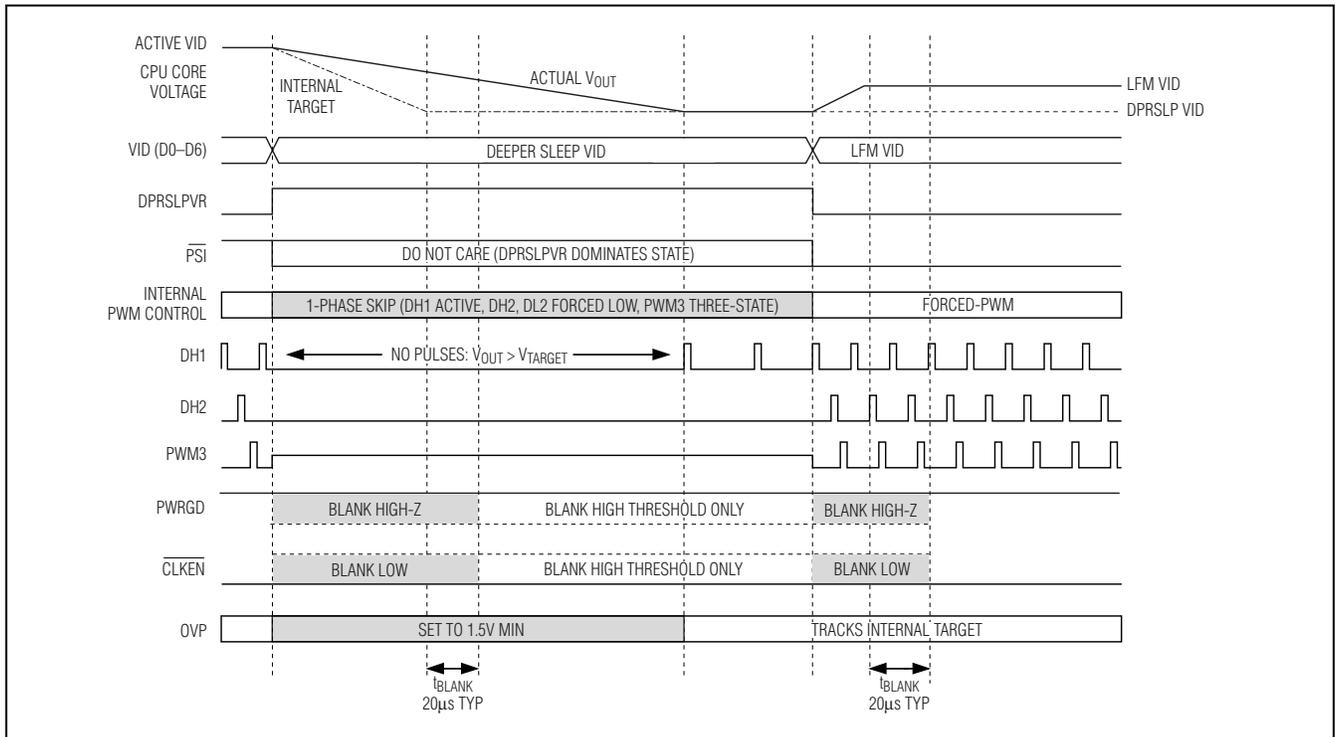

Figure 6. Standard C4 Transition
- **Standard C4 Deeper Sleep Exit:** When exiting deeper sleep (DPRSLPVR pulled low) while the output voltage is regulating to the deeper sleep voltage, the MAX17030/MAX17036 immediately activate all enabled phases and ramp the output voltage to the LFM DAC code provided by the processor at the slew rate set by R_{TIME} . The controller blanks PWRGD and $\overline{\text{CLKEN}}$ (forced high impedance) until 20 μs after the transition is completed. See Figure 6.